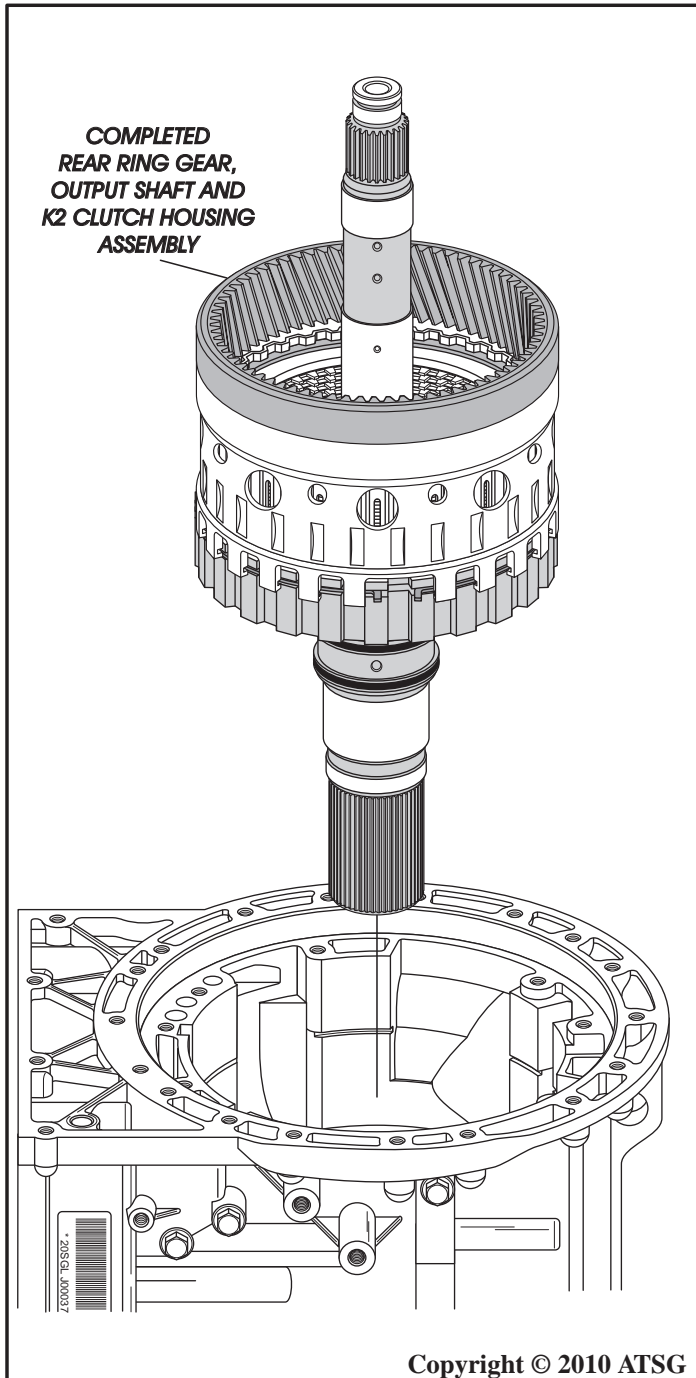

Figure 203
5. Lubricate the output shaft seals and seal surface in case with small amount of Trans-Jel®, and install the completed rear ring gear, output shaft and K2 clutch housing, as shown in Figure 203.